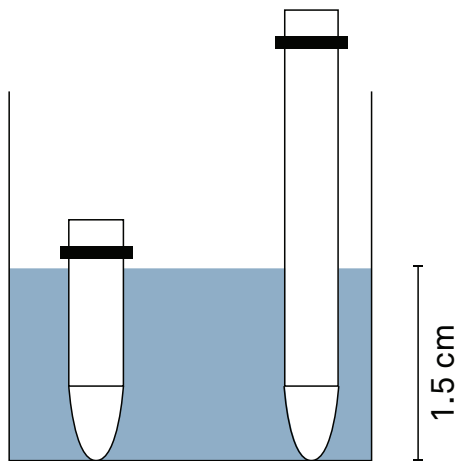

Figure 14 Saturate ceramic tips
1. Place the ceramic tips of the tensiometer shafts in deionized water overnight (Figure 14). Be sure that no water can enter the shaft from the open end. Otherwise air will be locked in the pores of the ceramic tip.